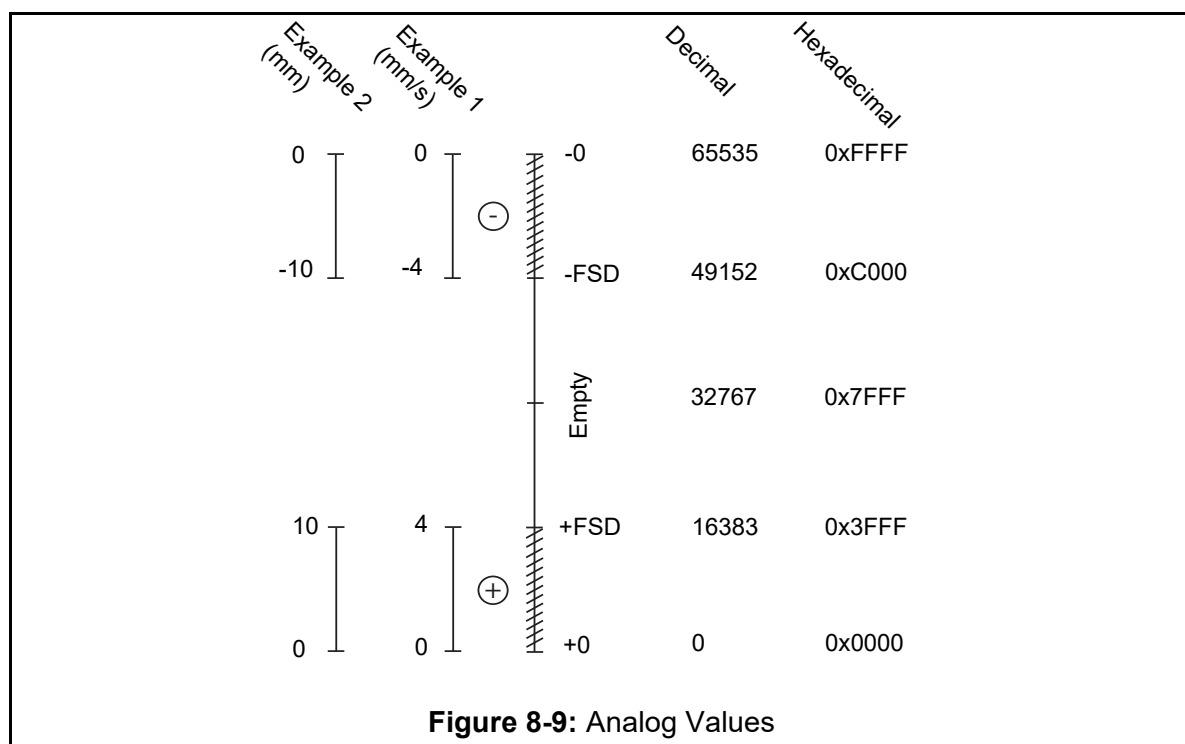

Figure 8-9: Analog Values
- FSD is coded as a 16-bit unsigned value (see Figure 8-9).